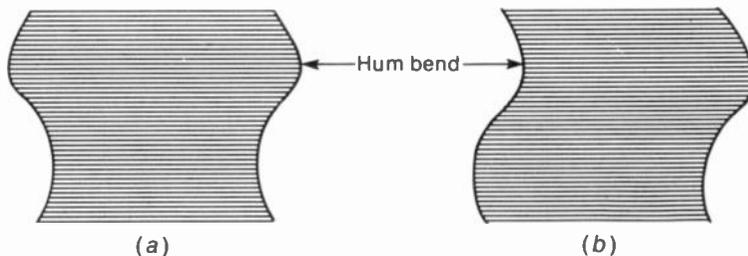

FIGURE 19-20 BEND IN RASTER, CAUSED BY HUM. (a) WIDTH MODULATED AT 60 Hz; (b) LINES DISPLACED HORIZONTALLY AT 60 Hz.
**Hum bend in the raster.** See Fig. 19-20. The edges of the raster have sine-wave bend because of hum. One cycle of bend is shown here for 60-Hz hum. With 120-Hz hum there are two cycles of bend at the edges of the raster. In Fig. 19-20a, the width of the horizontal scanning lines is varying at the hum frequency. This can be caused by hum in the horizontal scanning current. In Fig. 19-20b, the lines are displaced horizontally. Note that the two sides of the raster are parallel. This effect can be caused by hum in the horizontal AFC or in the horizontal oscillator.